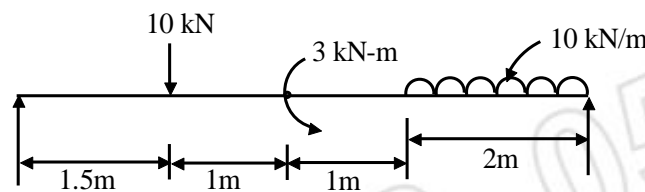

Fig. 6
10. Calculate the deflection under point load for the beam shown in fig 6. by Macauley's method in terms of EI. 13